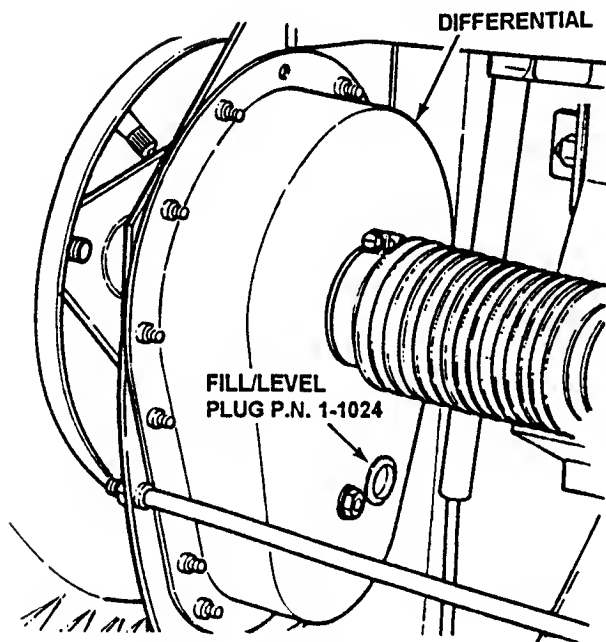

FIGURE 3.9
- b. To check lubricant, remove fill/level plug and visually inspect for lubricant on the internal parts of the differential. If no lubricant is visible on the internal parts of the differential, add "00" grease as needed. See Figure 3.9.